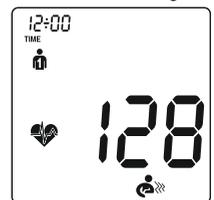

Fig. 2
- c) Movement Error Indicator: the symbol  appears if the arm movement is detected. This, in fact may compromise the accuracy of the measurement. In the case of the slightest arm movement the measurement can be continued. In the case of the significant arm movement, the measurement will not be continued, the symbol "Err2" will be displayed (Fig.2)